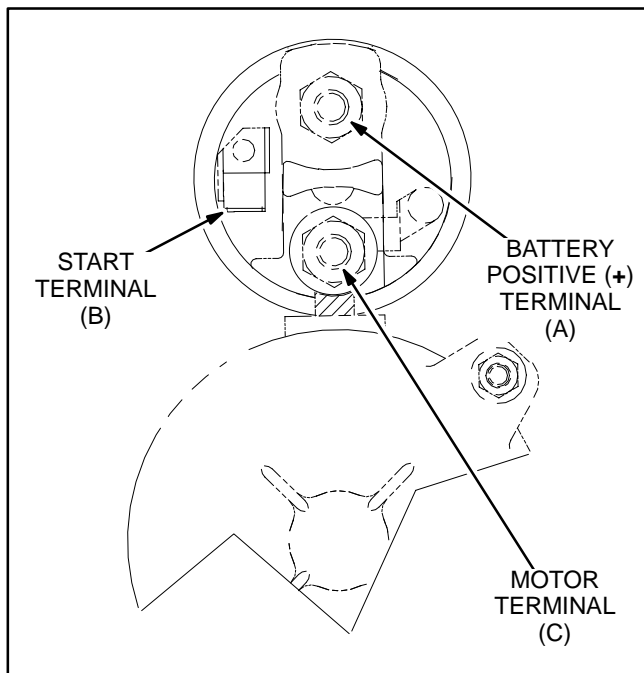

FIGURE 6-18. STARTER SOLENOID TERMINALS, ELITE E140H ENGINE
See Figure 6-18. Before removing a starter because the engine does not crank:
2. Disconnect the spark plug cable so that the engine will not start. Then bypass the start circuit with a jumper between the Start and the Battery Positive (+) terminals on the solenoid (Figure 6-18). If the engine cranks, the solenoid and starter are probably okay. If the engine does not crank, go to Step 3.
3. Bypass the starter solenoid with a jumper between the Motor and the Battery Positive (+) terminals on the solenoid (Figure 6-18). If the motor responds, it is probably okay and it may only be necessary to replace the solenoid.